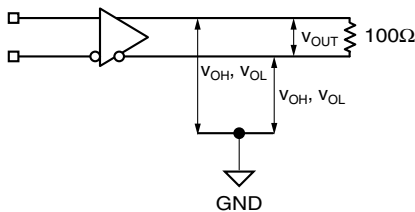

Figure 2a. LVDS Differential Measurement
**Note 1.** The circuit is designed to meet the DC specifications shown in the above table after thermal equilibrium has been established.**Note 2.** Specification for packaged product only.**Note 3.** Measured as per Figure 2a,  $100\Omega$  across Q and /Q outputs.**LVTTTL/CMOS INPUTS DC ELECTRICAL CHARACTERISTICS**(Note 1, 2) $V_{CC} = 3.3V \pm 10\%$ ,  $T_A = -40^\circ\text{C}$  to  $+85^\circ\text{C}$